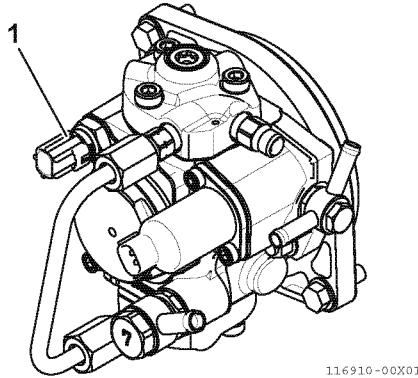

Fig.50-31
- 1 - Prior to removing, carefully clean around the part where the fuel temperature sensor (1, Fig.50-31) is installed using cleaning fluid, nylon brush, air blow, or other means.